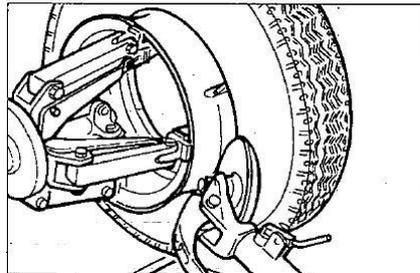

Fig.7.18
- 9) Turn the spindle and at the same time bring the bead loosener disk up against the tyre following the contour of the split-ring until the second bead has been broken (MB: Lubricate during this process). Continue to move the disk forward until about half the tyre has demounted from the rim (See Fig.7.18).